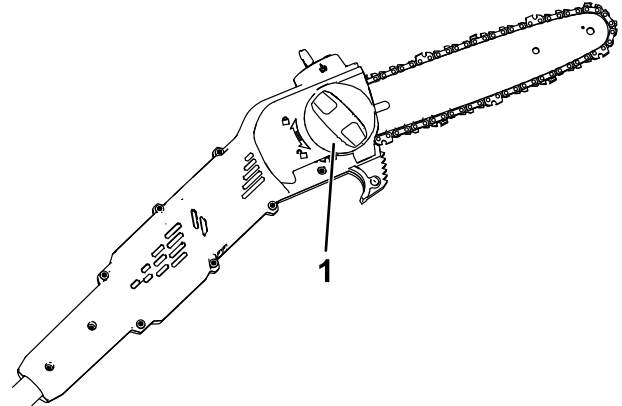
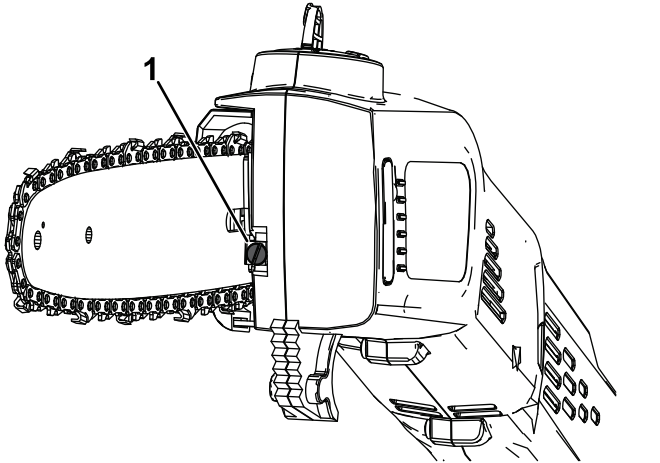

Figure 17
Figure 18
4. Turn the bar cover knob counterclockwise to loosen the bar cover, but do not remove it (Figure 17).
- Adjust the chain tension using the chain tensioning screw (Figure 18), and then secure the side cover to the pole saw by turning the bar cover knob clockwise before checking the tension (Figure 17).
- Loosen the chain by turning the chain-tightening screw counterclockwise (Figure 18).